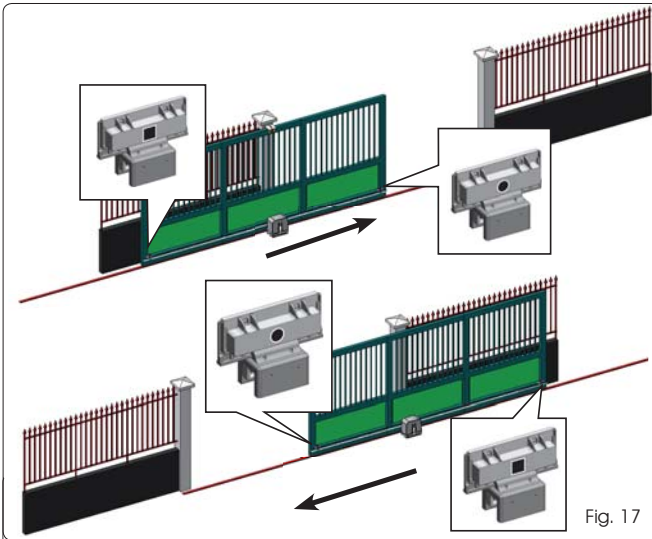

Fig. 17
2. Move the gate to **opening** position manually, leaving 40 mm from the limit switch mechanical stop (see Fig. 17).
(SEE FIG. 17)